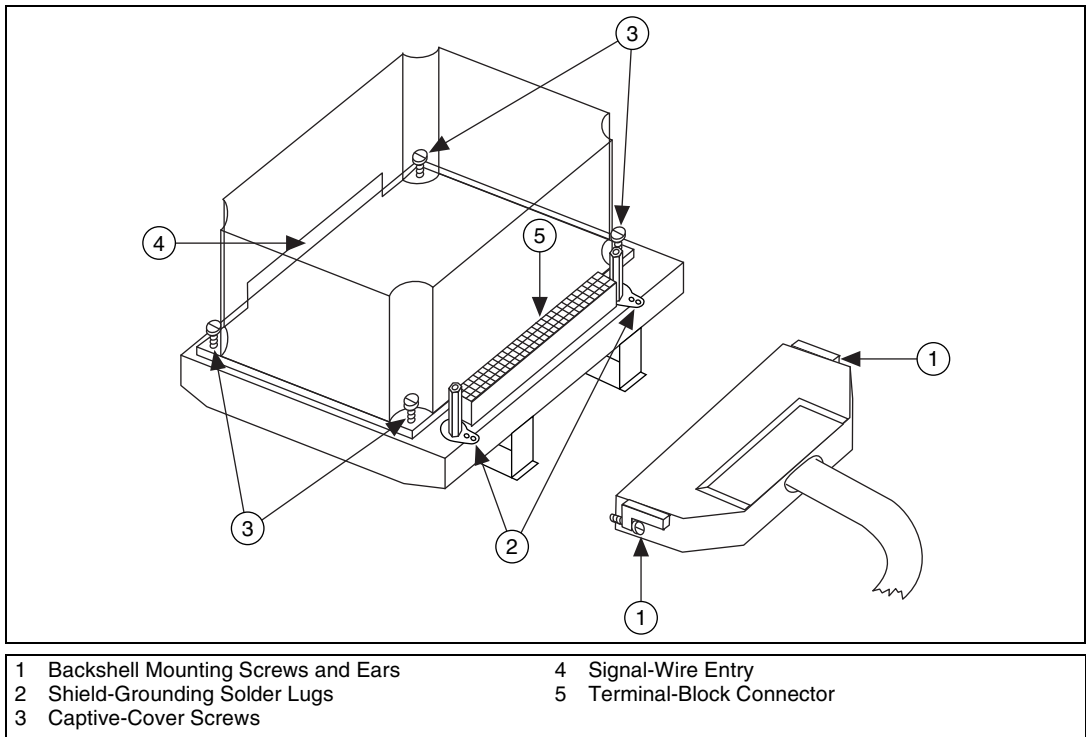
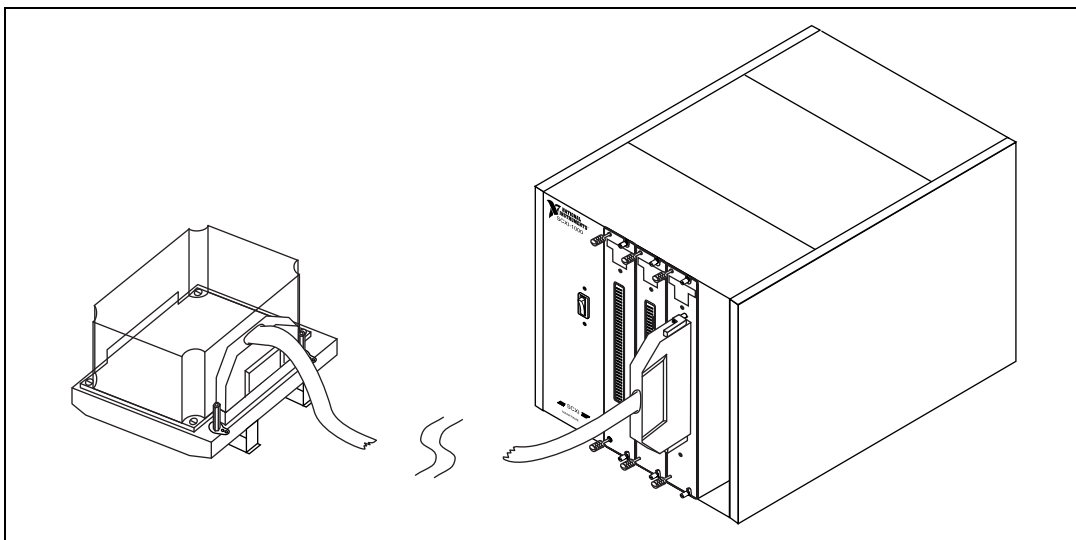

Figure 2. Connecting the SH48-48-B Cable to the TBX-1326 Terminal Block
Figure 3. The Completed Installation
4. Connect the other end of the cable assembly to the TBX-1326 terminal block connector and secure the SH48-48-B cable by tightening both backshell mounting screws. Refer to Figure 2.
Note In Figure 2, the SH48-48-B cable is not shown in the exact position for proper connection to the terminal block connector. Refer to Figure 3 for the completed installation.
To connect the field signals to the TBX-1326 terminal block, refer to Figures 2 and 4 as you perform the following steps: